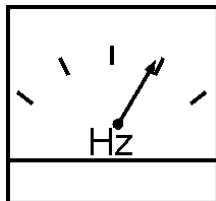

Figure 50. Frequency Meter (Hz)
9. The generator's frequency meter (Figure 50) displays the 60 cycle output frequency in HERTZ.